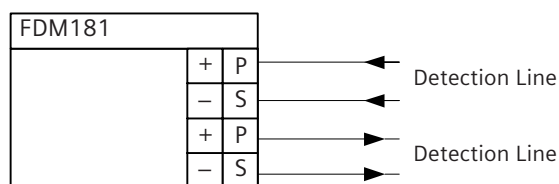

Fig. 4.7.3
2. Connect the feed line to the terminals on the electronic component according to the connection diagram (see Fig. 4.7.3).